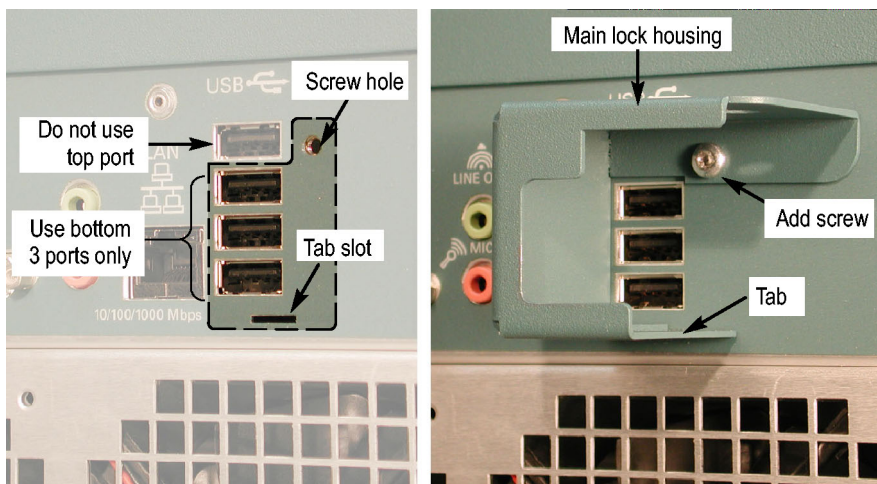

Figure 51: Mount the main lock housing to the instrument
2. Insert the tab of the main lock housing into the slot on the instrument under the USB connectors. Fasten the lock housing to the instrument with the T-15 screw. (See Figure 51.)